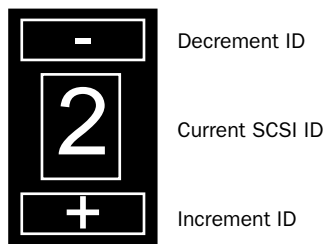

Figure 11. SCSI ID Switch
- 3 Set the SCSI ID to an available SCSI ID on the SCSI bus by using the SCSI ID switch (see Figure 11). The current SCSI ID number appears in the window in the middle of the switch.